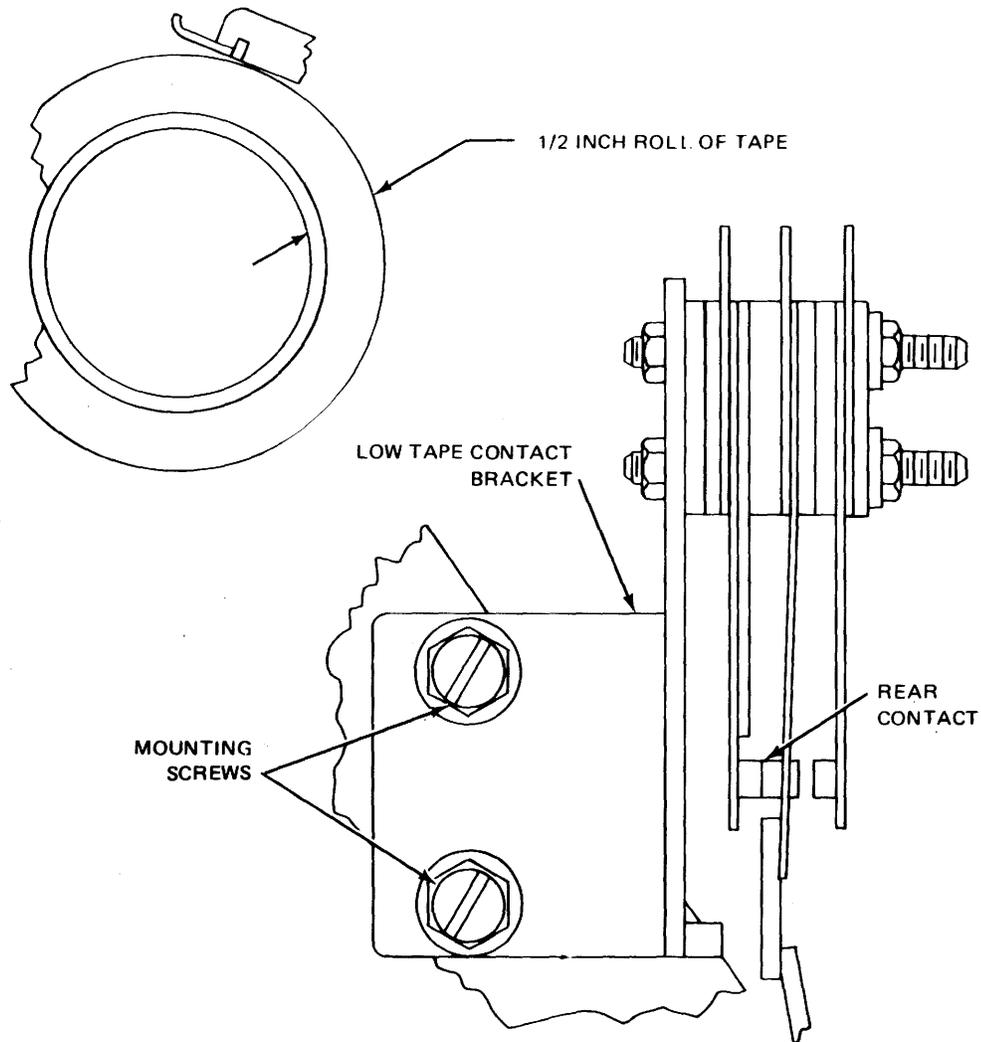

Figure 6-19. Low Tape Contacts (Motor Side).
5. Adjust low tape contact bracket (see figure 6-19).